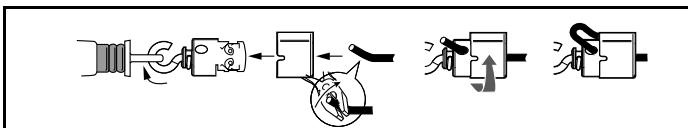

Fig. 5: Mounting the first rope clamp
- Connect rope as per Fig. 5 using rope clamp and attach rope clamp to rope pull switch. Then put the yellow cap back on.
- Cut off excess rope length and install rope end in gripper as shown in Fig. 5.